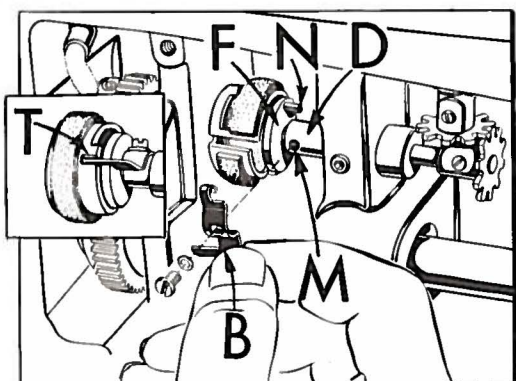

Fig. 26
10. Turn hook oil control shaft (D, Fig. 26) until screw hole (M) is accessible. Manually rotate pump disc (F) so its stop pin (N) is 90° above screw hole.
11. Rotate metering cup so the short slot (T) is 180° from the stop pin (N). Now, install the hook oil control finger (B) by first hanging the hooked portion of the finger over the stop pin (N) and lowering to insert the projection at bottom left into the short slot of the metering cup. Tighten finger (B) in place by means of screw and washer, making sure the hook oil control finger does not bind or distort the metering cup.